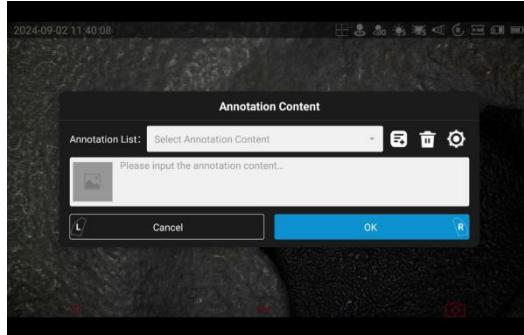

Figure 8-20
When the annotation is “YES”, click the white flag in live image mode, the annotation window will pop up (as shown in Figure 8-20).
3. Click “New Stream” and enter the URL: rtsp://192.168.43.1:1234 , click Enter, and wait for connection (as shown in Figure 8-20).